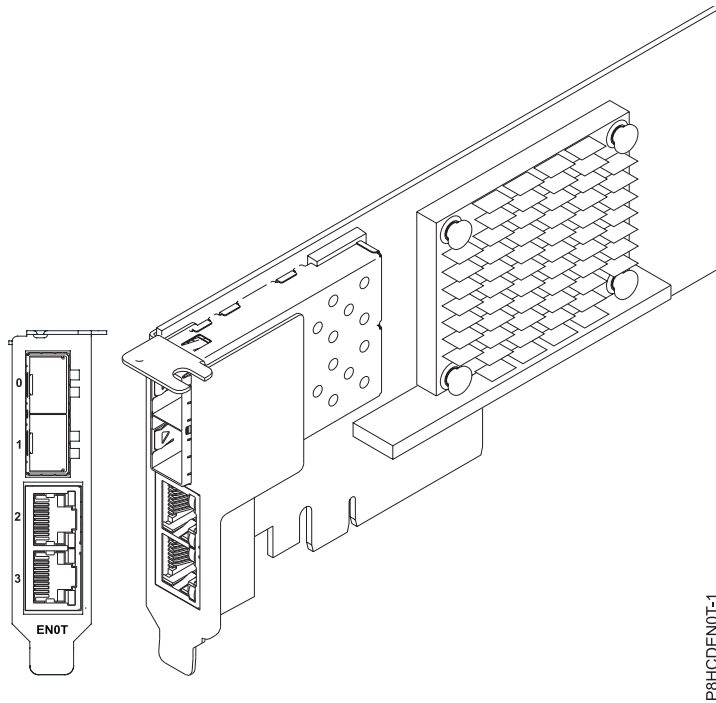

Figure 80. FC EN0T adapter
The four-port adapter provides two 10 Gb small form-factor pluggable (SFP+) optical SR transceiver ports and two 1 Gb RJ45 Ethernet ports. The two 10 Gb SR ports have little connector (LC) duplex-type connectors. The optical transceiver uses shortwave laser optics and is attached with MMF-850nm fiber cabling with LC connectors. See “Cables” on page 249 for more information about the optical cables. Each 10 Gb port provides Ethernet connectivity with a nominal data rate of 10 Gbps (gigabits per second). Figure 80 on page 249 shows the FC EN0T adapter.